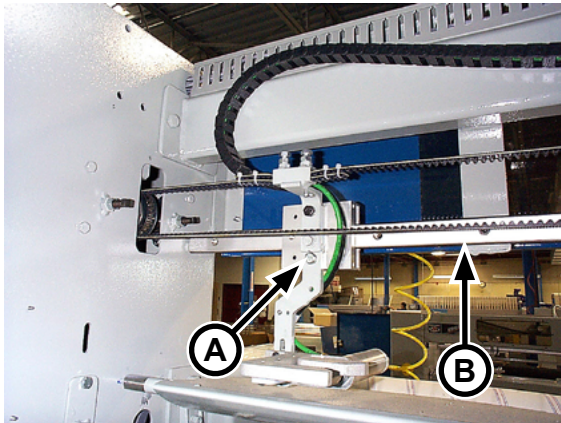

Figure 4-3: Lightly lubricate the upper spreader rail every 50 hours of operation.
Check the grooved bearings in the assembly by taking the spreader clamp (Figure 4-3, A) in hand and shaking it from side to side. If there is free-play in the carriage, the grooved bearings need to be replaced.
2. Use a small amount of dry silicon lubricant on a clean, dry, lint-free cloth and wipe the upper spreader rails (Figure 4-3, B) after each 50 hours of operation.